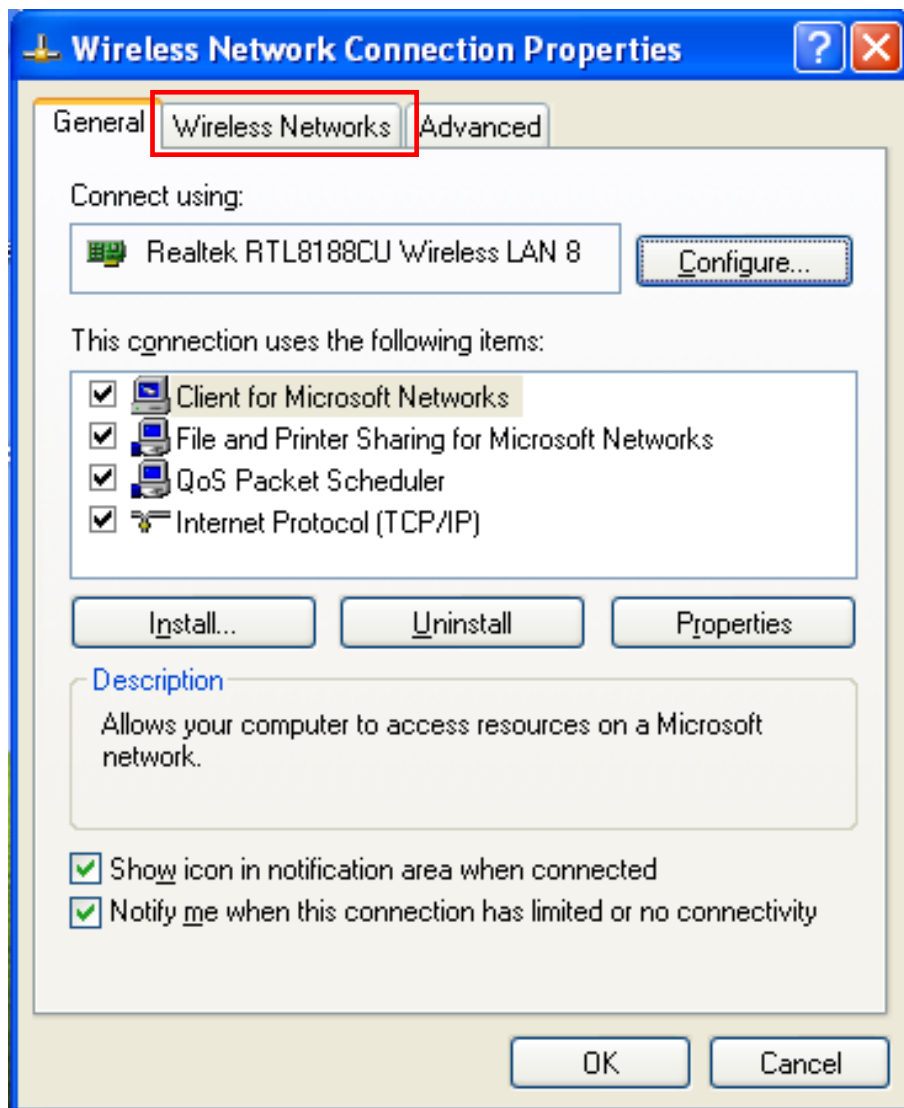

Figure 10
- ③ When the dialog box pops up, click “Wireless Networks” on the upper side of the dialog box (as shown in Figure 10).